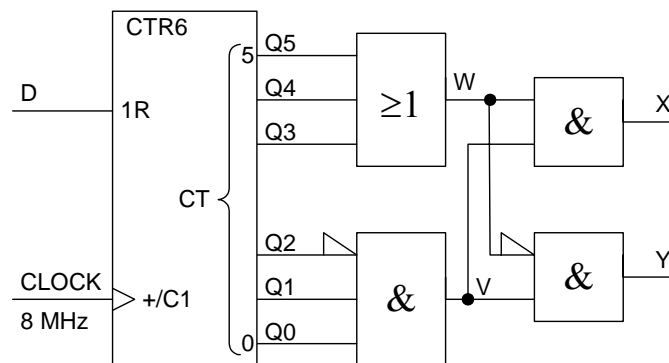

Figure 3.2
- (a) The output signal, *D*, of the transmitter is connected to the receiver circuit of *Figure 3.2* which consists of a 6-bit counter and four gates. On each rising edge of *CLOCK* the counter increments unless *D* is high in which case it resets to 0. All pulses on *D* last for exactly one *CLOCK* cycle with signal transitions occurring slightly after the *CLOCK* rising edge.